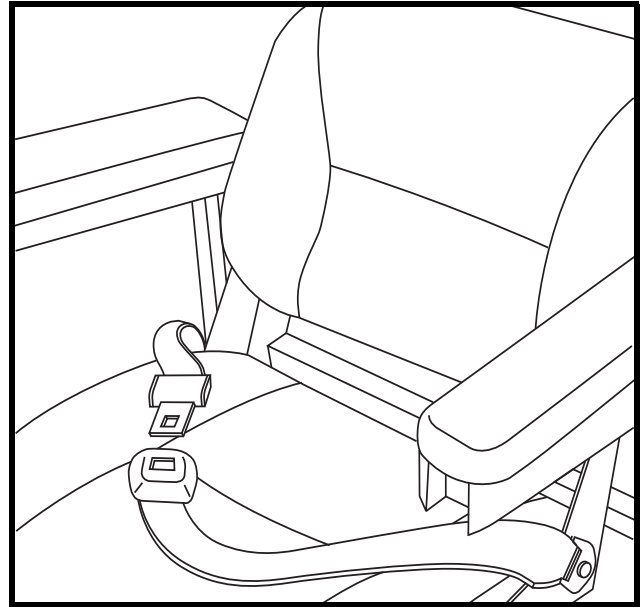

Figure 15. Positioning Belt Adjustment
Your power chair may be equipped with a positioning belt that can be adjusted for operator comfort. See figure 15. The positioning belt is designed to support the operator so that he/she does not slide down or forward in the seat. The positioning belt is not designed for use as a restraining device.
1. Once seated, insert the metal tab on one side of the belt into the plastic housing on the opposite side until you hear a click. See figure 15.